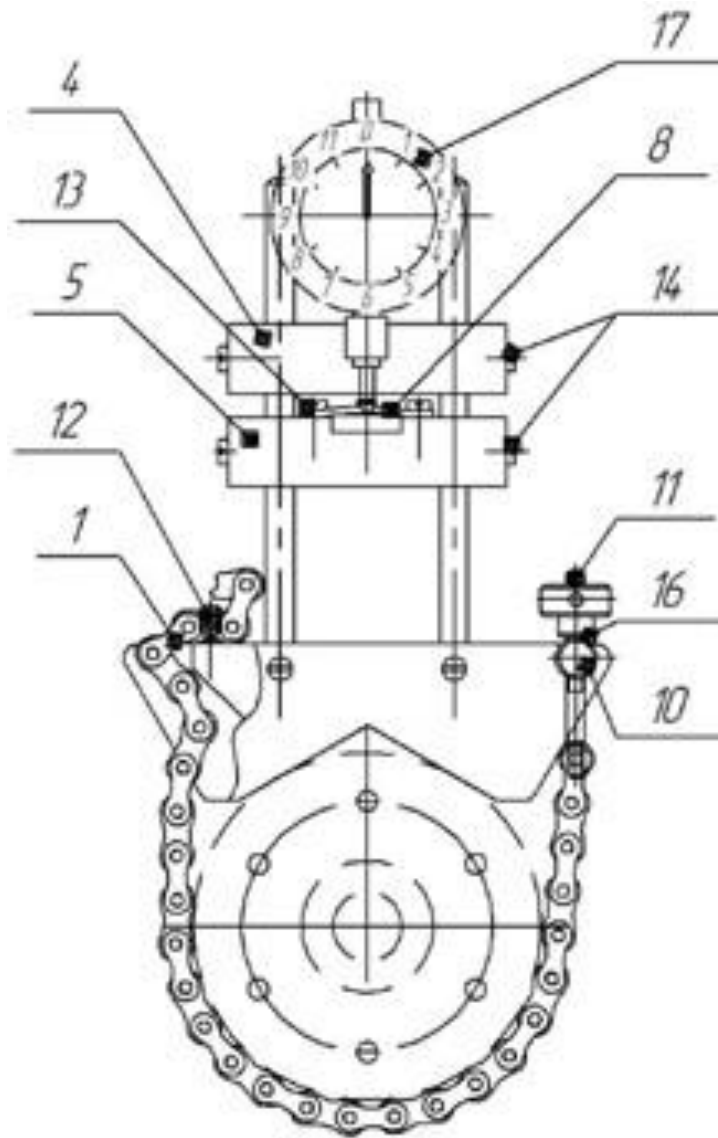

Fig. 7.4. Installation drawing of device for checking coaxial alignment of shafts with dials indicators:
7.5.2 Fix the struts in prisms, install the prisms on the half-couplings (shafts) at a distance of at least 30 mm and not more than 250 mm from each other and fix them to the half-couplings, using chains and tension nuts (Figs. 7.4, 7.5).